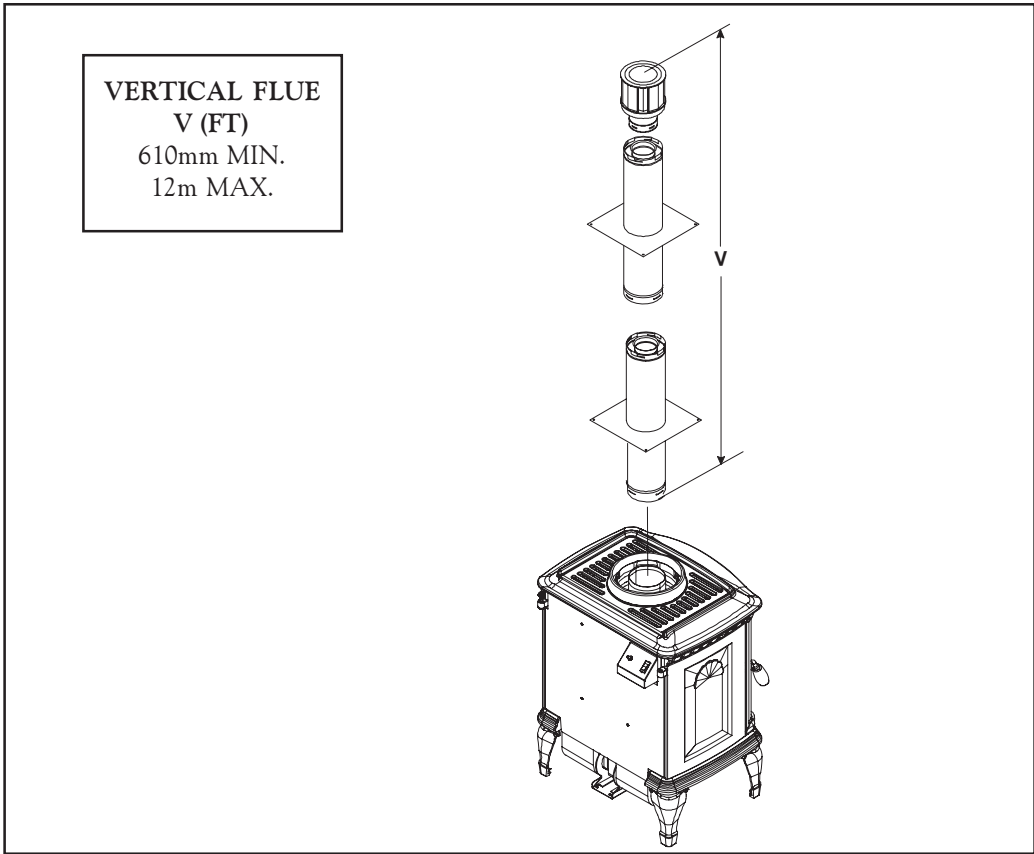

Figure 8. Straight Vertical Flue System
Figure 8 shows examples of possible installations using two (2) 90° elbows. If two 90° elbows are used in the flue system either a horizontal or a vertical termination can result. Dimensions V are listed as **MINIMUM** vertical dimensions and dimensions H are listed as corresponding **MAXIMUM** horizontal dimensions.
Figure 8 and table show a straight vertical vent configuration and termination approved for use on this model.